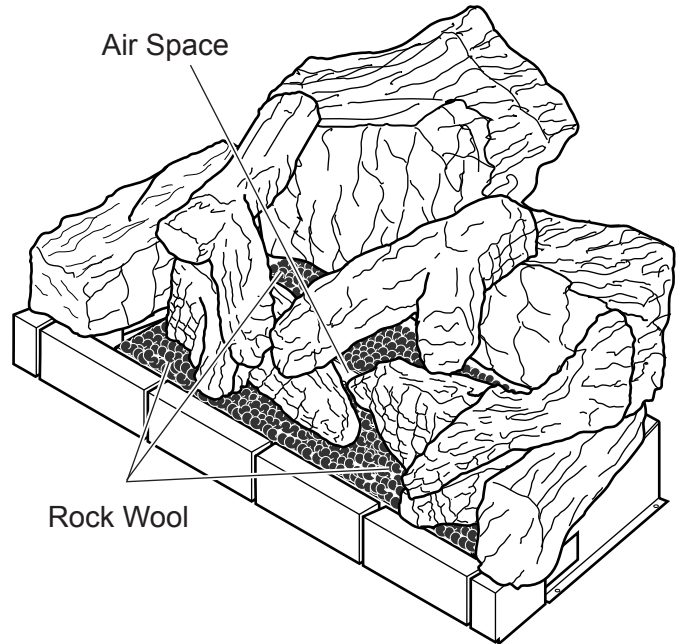

Figure 56 - All Logs on Burner with Rock Wool
12. Cover any exposed burner surface with rock wool. For best flame and glow, do not block air space between burners and logs with rock wool. See *Figures 56 and 57*.